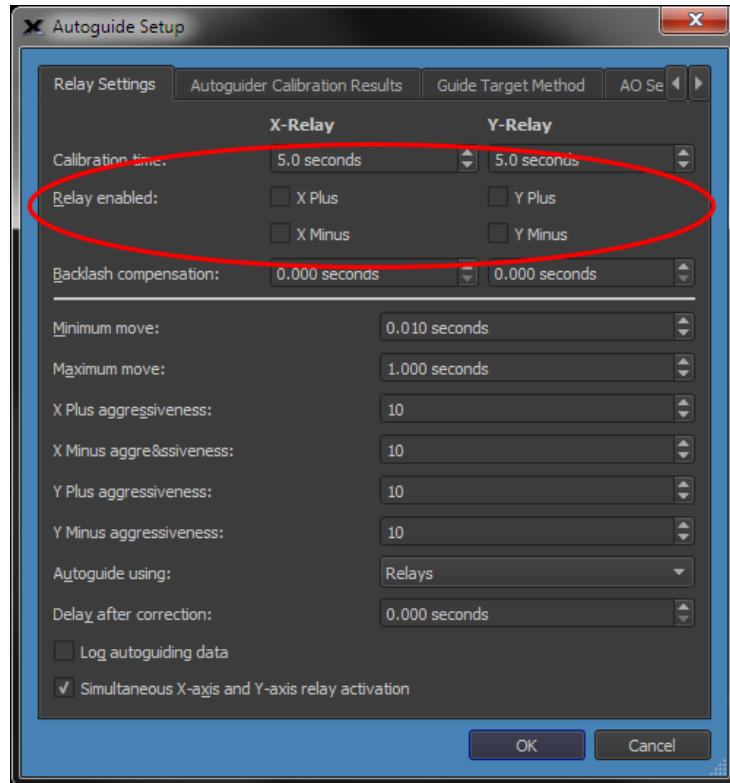

Figure 77: The *Relay* tab on the Camera Add On's *Autoguide Setup* window.
5. On the **Relay Settings** tab, turn off the **X Plus, X Minus, Y Plus, Y Minus** checkboxes following the **Relay Enabled** text (Figure 77). Turning these options off prevents the **Camera**